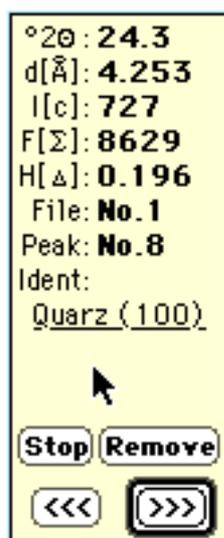

Fig. 37: Peak data display as shown by use of an analysis program
**Start Analysis**  Once this menu function is active the analysis programme is in memory (see the menu 'Analysis Program...') and ready to be started. Then the lines of the diffractogram placed in the foreground and predetermined in the analysis programme will be looked for and, if existing, be measured. The peak analysis window on the right hand side (Fig. 37) is, for an active programme, extended by a 'Stop'-button for cancelling the analysis, by a 'Remove' button for removing the data from report list, and by two '<<<<' and '>>>>' -buttons (forward/backward) setting the direction in which the analysis programme is to work. Moreover, the phase substance name set in the analysis programme will be shown ('Ident:...') providing it is identified in the programme list.